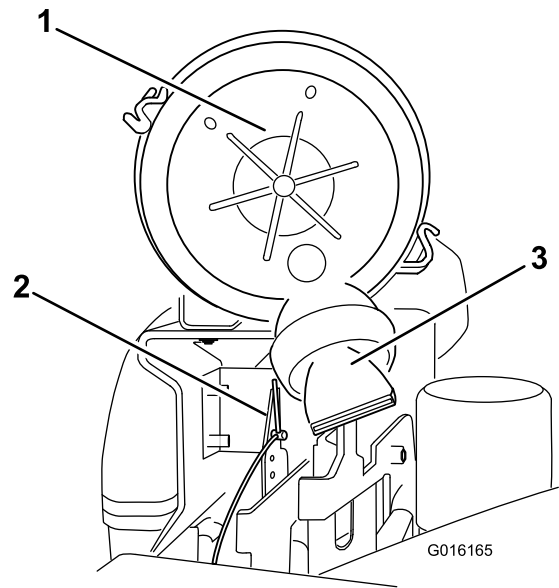

Figure 46
- Position the air-cleaner cover, so that the breather valve does not interfere with the throttle mechanism (Figure 46).